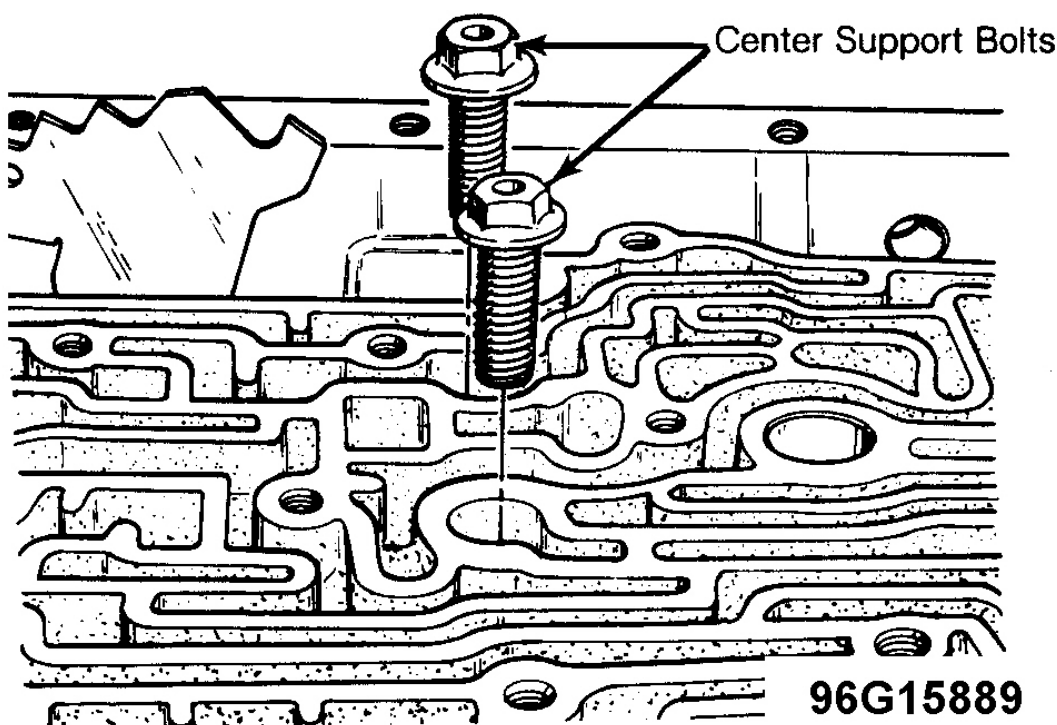

Fig. 12: Removing Center Support Bolts
1. Remove 2 center support bolts. See **Fig. 12** . From inside case, remove center support beveled snap ring. Lift center support from case using Slide Hammer (J-7004) and Remover (J-29334). Remove center support/direct clutch thrust washer.